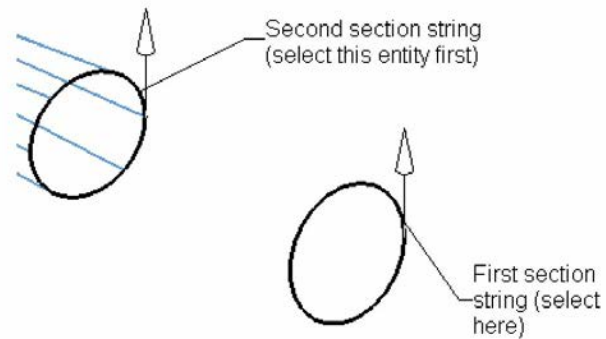

Figure 10-125 The through curves surface created after selecting both cross-sections
4. Select the first section string, refer to Figure 10-125. Next, press the middle mouse button; you are again prompted to select the curve or point to section.
5. Select the second section string, which is the edge of the surface created earlier, refer to Figure 10-125. Note that the arrows should point in the same direction. Next, choose the **OK** button; the surface is created.